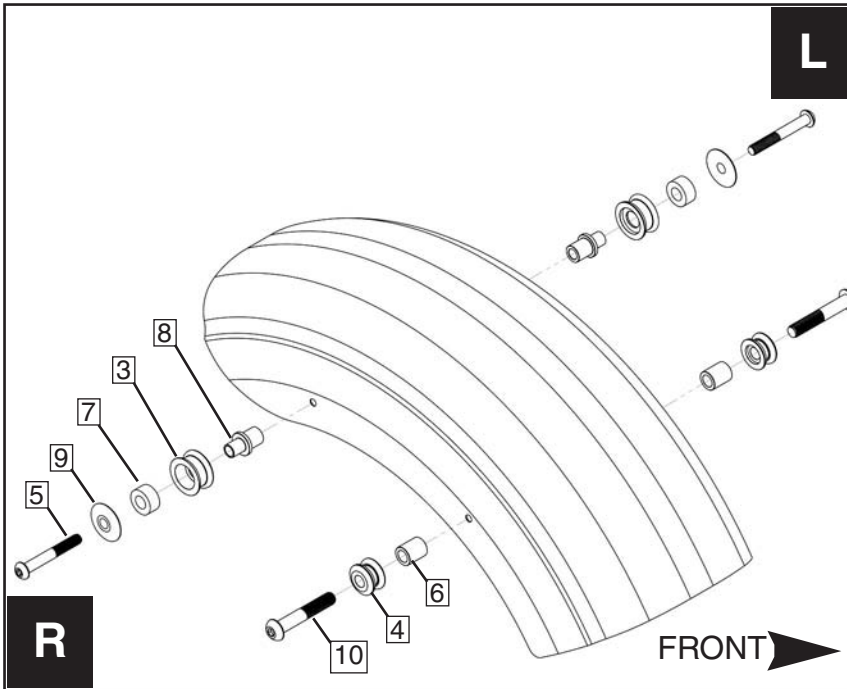

Figure 1
2. Install front and rear spool assemblies into the right side of fender. Do not fully tighten. This will allow some movement which aids in the side plate installation. **(5 and 6mm Hex Wrench) Figures 1 and 2**